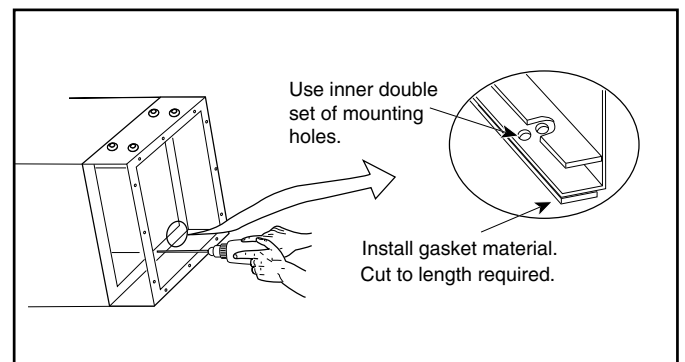

Figure 16 Installation Details
2. Install the self-adhesive gasket material on the side of the air cleaner cabinet flange that will mate with the indoor unit. This flange has a double set of holes. See Figure 16.
8. Securely fasten the unit using the self-tapping sheet metal screws provided. See Figures 16.
- Install the self-adhesive gasket material on the side of the air cleaner cabinet flange that will mate with the indoor unit. This flange has a double set of holes. See Figure 16.
8. Securely fasten the unit using the self-tapping sheet metal screws provided. See Figure 16.